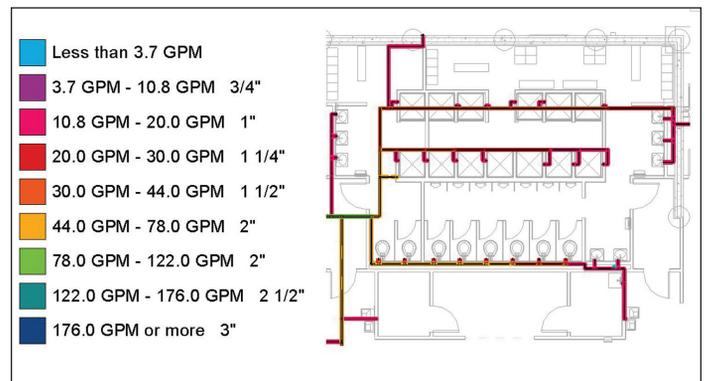

Figure 10: Pipe flow legend
I set up a view with a pipe legend. I was able to use this to help size pipe based off the 2006 International Plumbing Code Figure E103.3(3) Friction Loss in Smooth Pipe (see Figure 10).